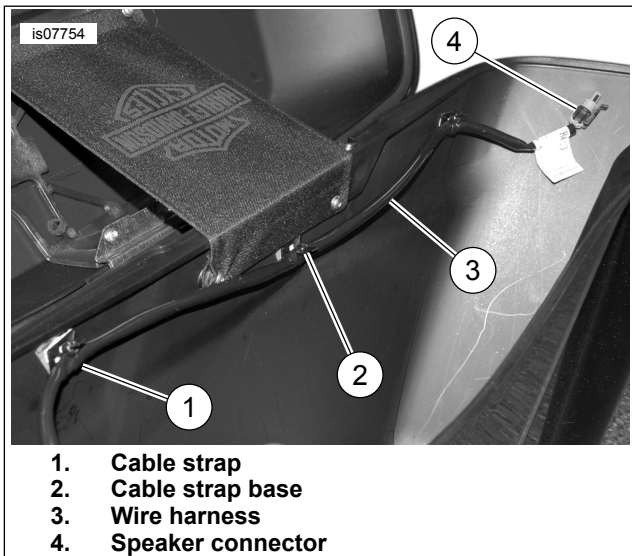

Figure 9. Speaker Harness Routing
9. See Figure 9. Clean the inside top surfaces of the saddlebag with a mixture of 50-70 percent isopropyl alcohol and 30-50 percent distilled water. Route the saddlebag speaker harness (3) inside the left saddlebag leaving enough slack to open the cover. Secure with cable straps (1) and bases (2) as shown. If cover speakers are not used, bundle the unused wire next to amplifier on the outboard side. Secure with cable strap and base.
- b. The LH cover speaker connection is made inside the LH saddlebag as part of the (69200488) harness. See figure 9. Upgrade: If cover speakers are present from a prior install, remove the harness (69200641) from inside the LH saddlebag. The 2-way connector provided with harness (69200488) will replace it.